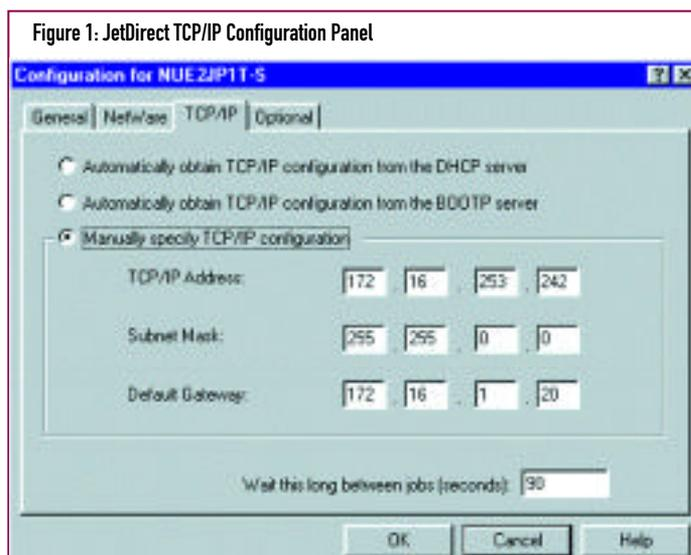

Figure 2: Select the HP JetDirect Port
6. Select "HP JetDirect Port," as shown in Figure 2.